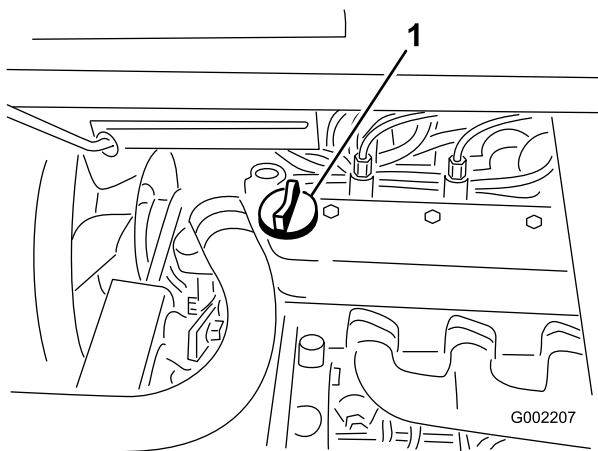

Figure 17
3. If the oil level is low, remove the filler cap from the valve cover (Figure 17) and pour oil into the opening until the oil level is up to the Full mark on the dipstick; refer to Servicing Engine Oil, Engine Maintenance , page 35 , for the proper oil type and viscosity. Add the oil slowly and check the level often during this process. Do not overfill.